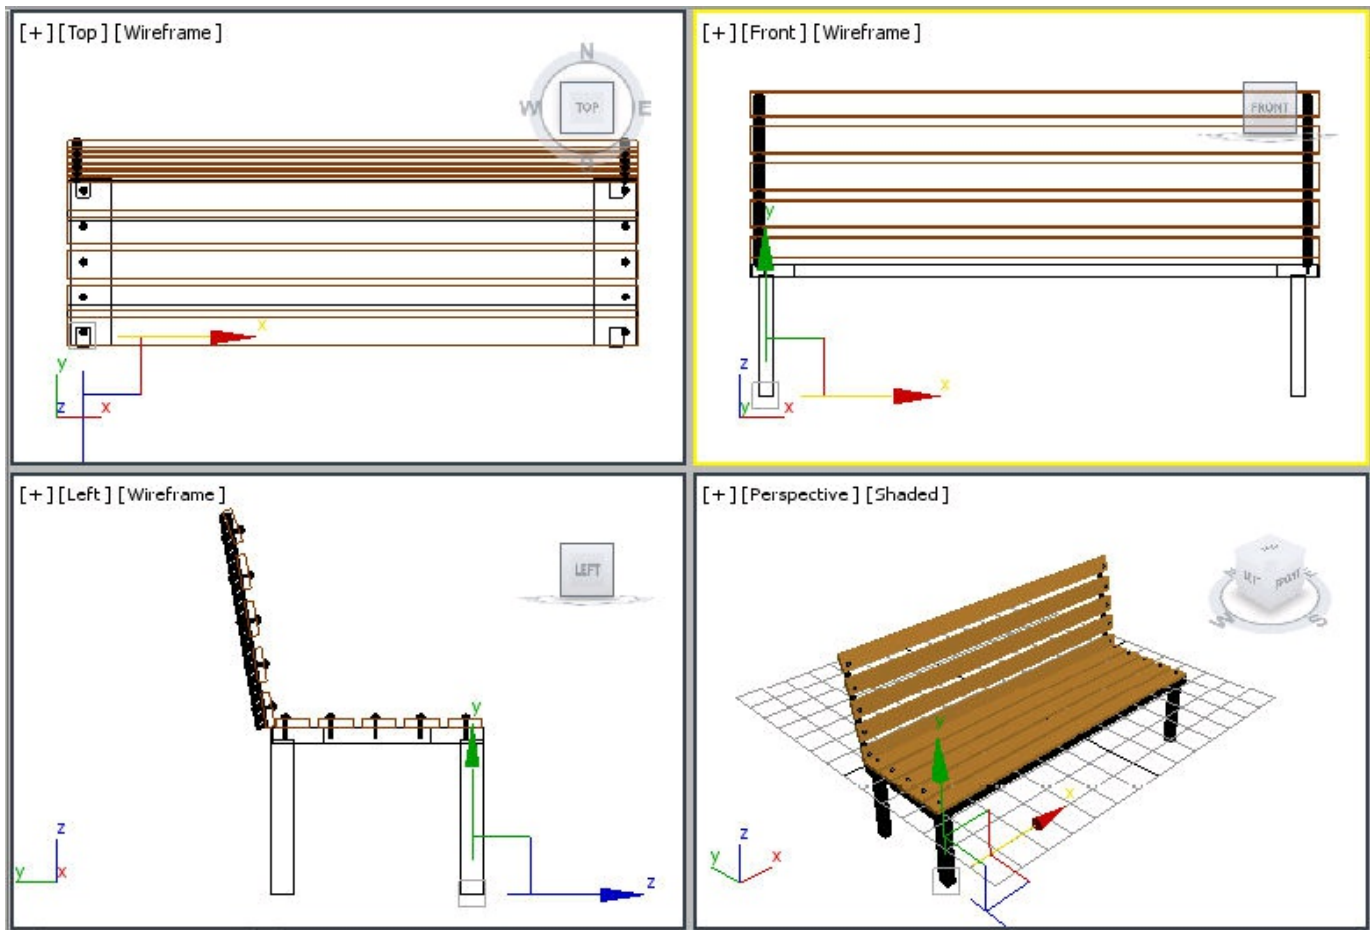

Figure 2-98 Alignment of legs in viewports
7. Choose the **Select and Move** tool and align *leg002*, *leg003*, and *leg004* in the viewports, as shown in Figure 2-98.